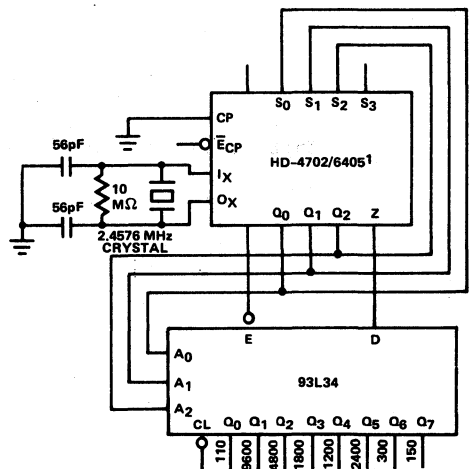

FIGURE 2
Figure 2 shows a simple scheme that generates eight bit rates on eight output lines, using one HD-4702/6405 and one 93L34 Bit Addressable Latch. This and the following applications take advantage of the built-in scan counter (prescaler) outputs. As shown in the block diagram, these outputs (Q0 to Q2) go through a complete sequence of
eight states for every half-period of the highest output frequency (9600 Baud). Feeding these Scan Counter Outputs back to the Select Inputs of the multiplexer causes the HD-4702/6405 to interrogate sequentially the state of eight different frequency signals. The 93L34 8-Bit Addressable Latch, addressed by the same Scan Counter Outputs, reconverts the multiplexed single Output (Z) of the HD-4702/6405 into eight parallel output frequency signals. In the simple scheme of Figure 2, input S3 is left open (HIGH) and the following bit rates are generated: